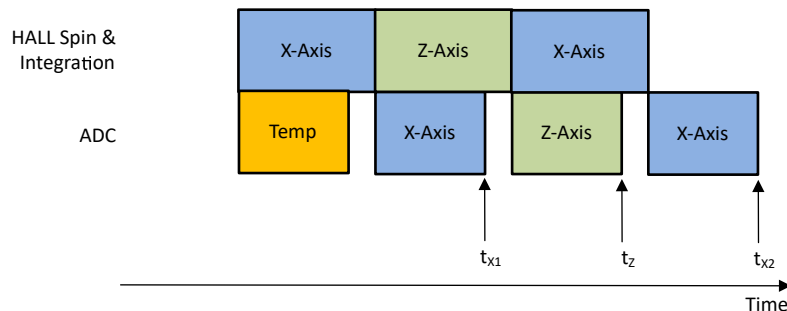

Figure 8-3. XZX Magnetic Field Conversion
In absolute angle measurement, application sensor data from multiple axes are required to calculate an accurate angle. The magnetic field data collected at different times through the same signal chain introduces error in angle calculation. The TMA5173-Q1 offers pseudo-simultaneous sampling data collection modes to eliminate this error. Figure 8-3 shows an example where MAG_CH_EN is set at 1011b to collect XZX data. Equation 18 shows that the time stamps for the X and Z sensor data are the same.
- t_{x1} , t_z , t_{x2} are time stamps for X, Z, X sensor data completion as defined in Figure 8-3.